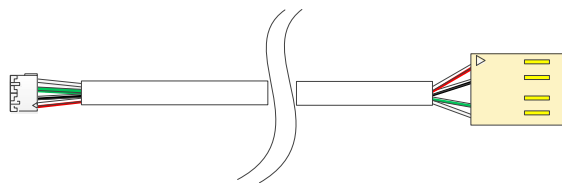

Figure 3 – Connector Cable IP150/UC300 to PCS250/PCS250G
**Note:** If you are programming the UC300 using the 307USB disconnect the PCS250/PCS250G, from the UC300 and connect the 307USB to the serial port. You may need to replace the serial cable with the cable in Figure 3 within the 307USB.
2. Plug in the PCS250/PCS250G cable between the UC300 serial port and the PCS250/PCS250G serial port. See *Figure 3* for the proper cable.
4. Plug in the IP150 to the PCS250/PCS250G using the IP150 PCS250/PCS250G port and the PCS250/PCS250G serial port. See *Figure 3* for the proper cable.